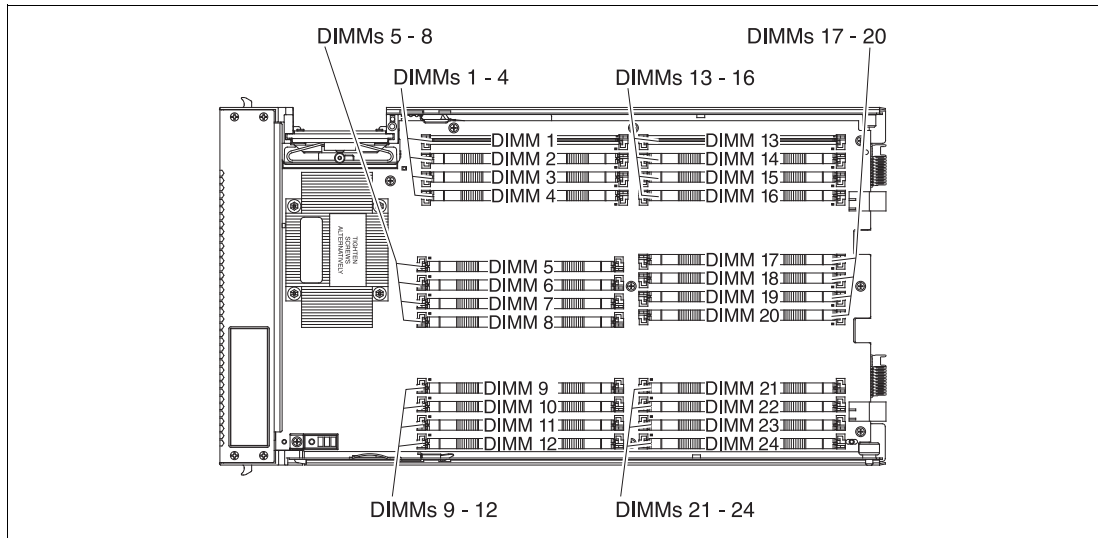
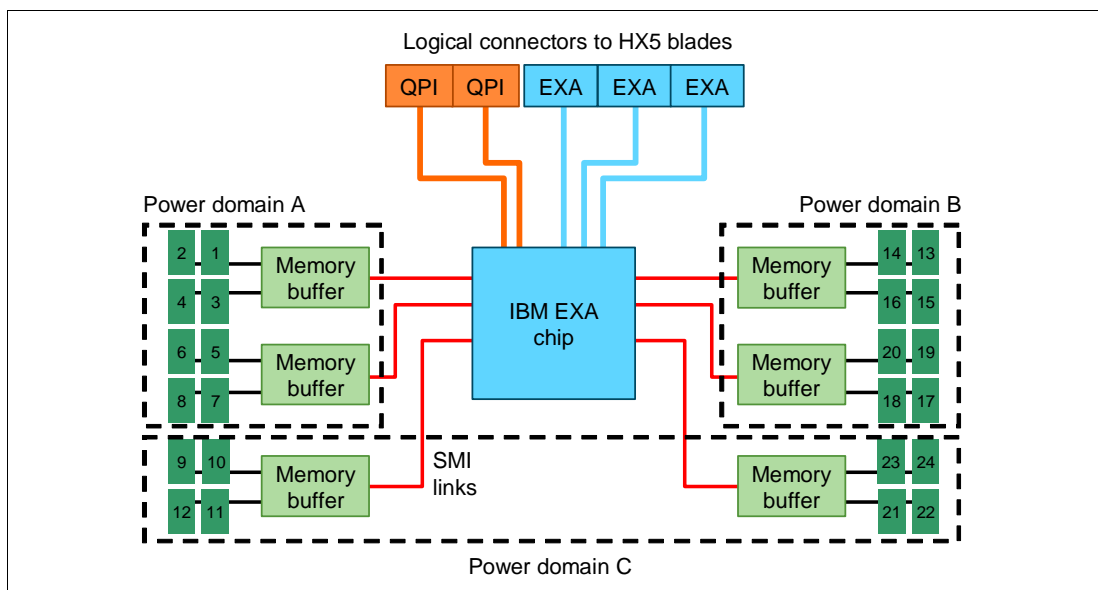

Figure 5-14 DIMM layout on the MAX5 system board
Figure 5-15 Power domains in the MAX5 memory expansion blade
The MAX5 memory expansion blade has 24 memory DIMM sockets, as shown in Figure 5-14 on page 196. The MAX5, which must be connected to an HX5 system (only the 1-node HX5 supports the MAX5), has one memory controller and six SMI-connected memory buffers.
- ▶ The data widths for the following quads must match. For example, DIMMs in each quad must be all 4Rx8 or all 2Rx8. See Figure 5-15 for the block diagram and Figure 5-14 on page 196 for the physical location of these DIMMs.
The DIMM sockets in the MAX5 are arranged in three power domains (A, B, and C), as shown in Figure 5-15. Each power domain includes two memory controllers and eight DIMM sockets.